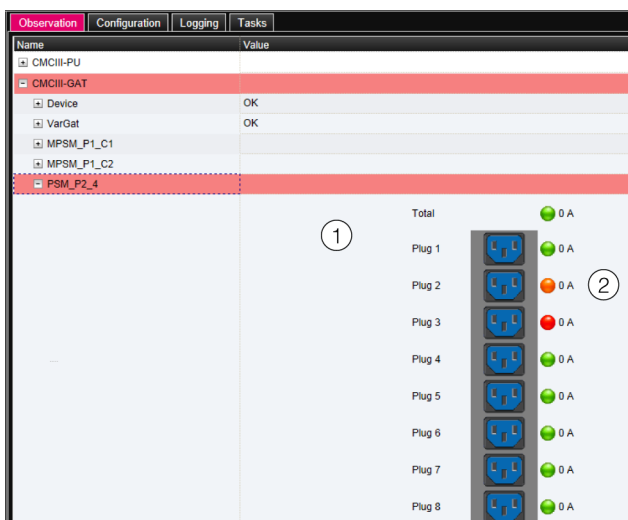

Fig. 15: Graphical display with status display
The graphical display (fig. 15, item 1) allows you to view all of the current switching states at a glance and modify them.
In addition, you also obtain an overview of the status of every output, which are colour-coded (fig. 15, item 2):